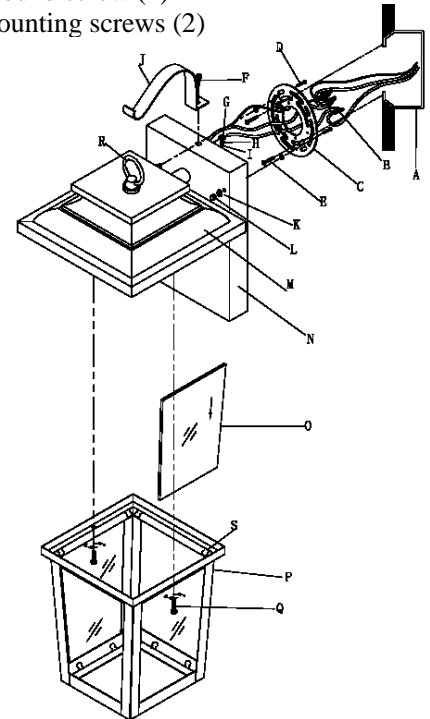

Fig. 2
CONNECTION THE WIRES (Fig. 2)
6. Connect the electrical wires as shown in (Fig.2), making sure that all wire connectors (B) are secured. If your outlet has a ground wire (green or bare copper), connect the fixture ground wire to it. Otherwise, connect the fixture ground wire directly to the mounting plate using the green screw provided.